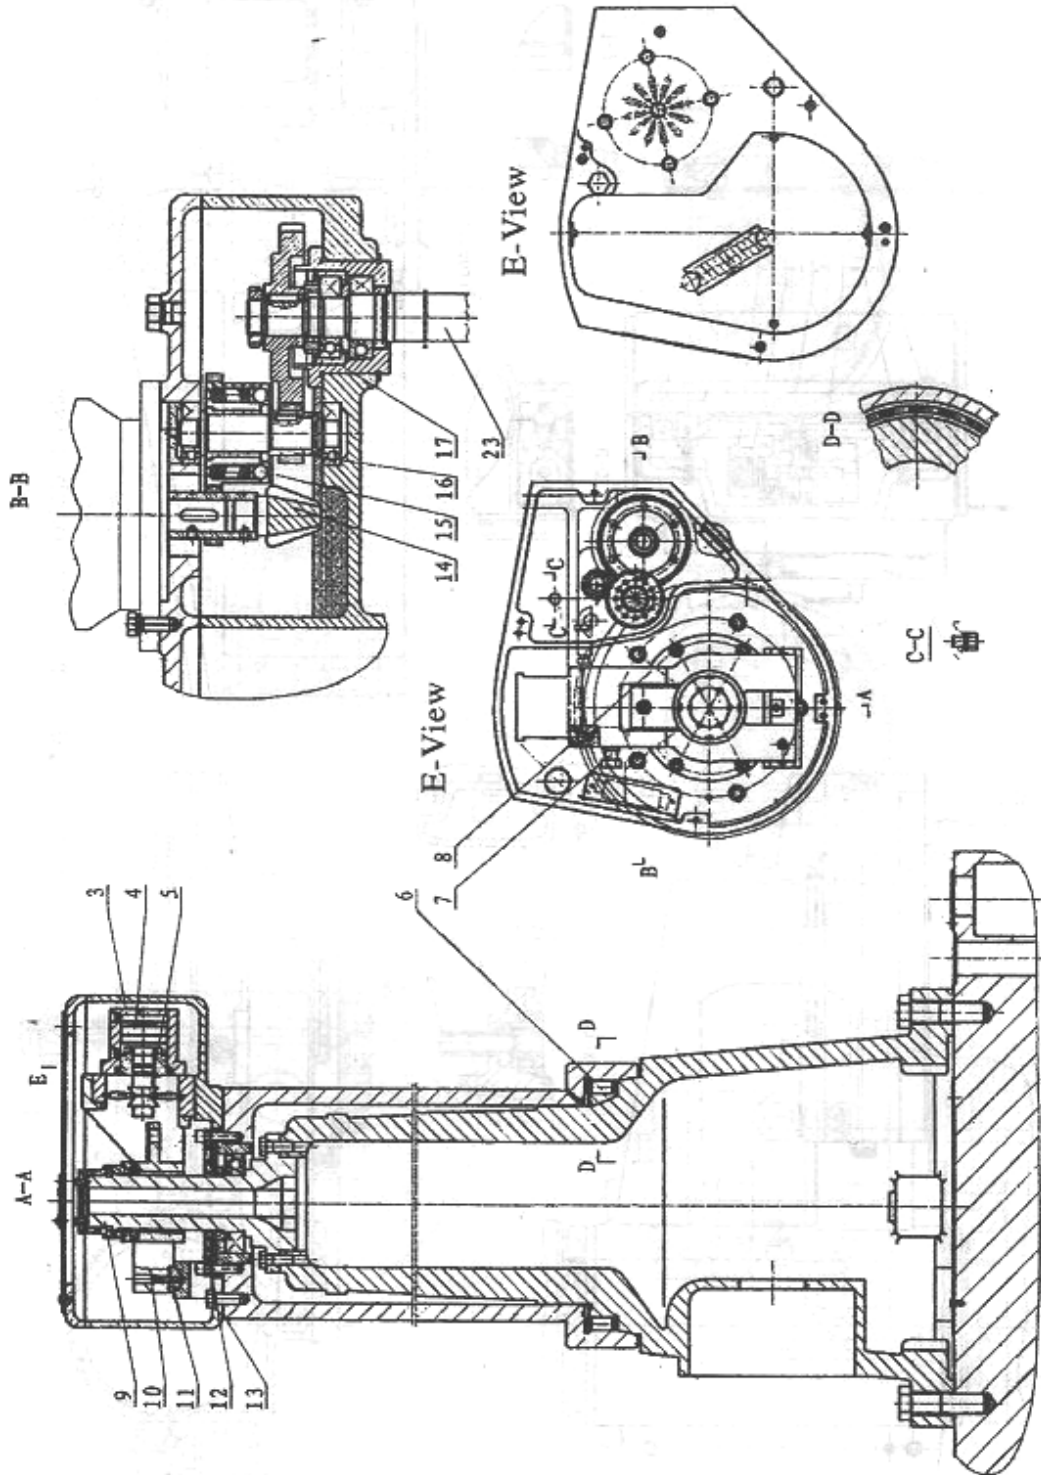
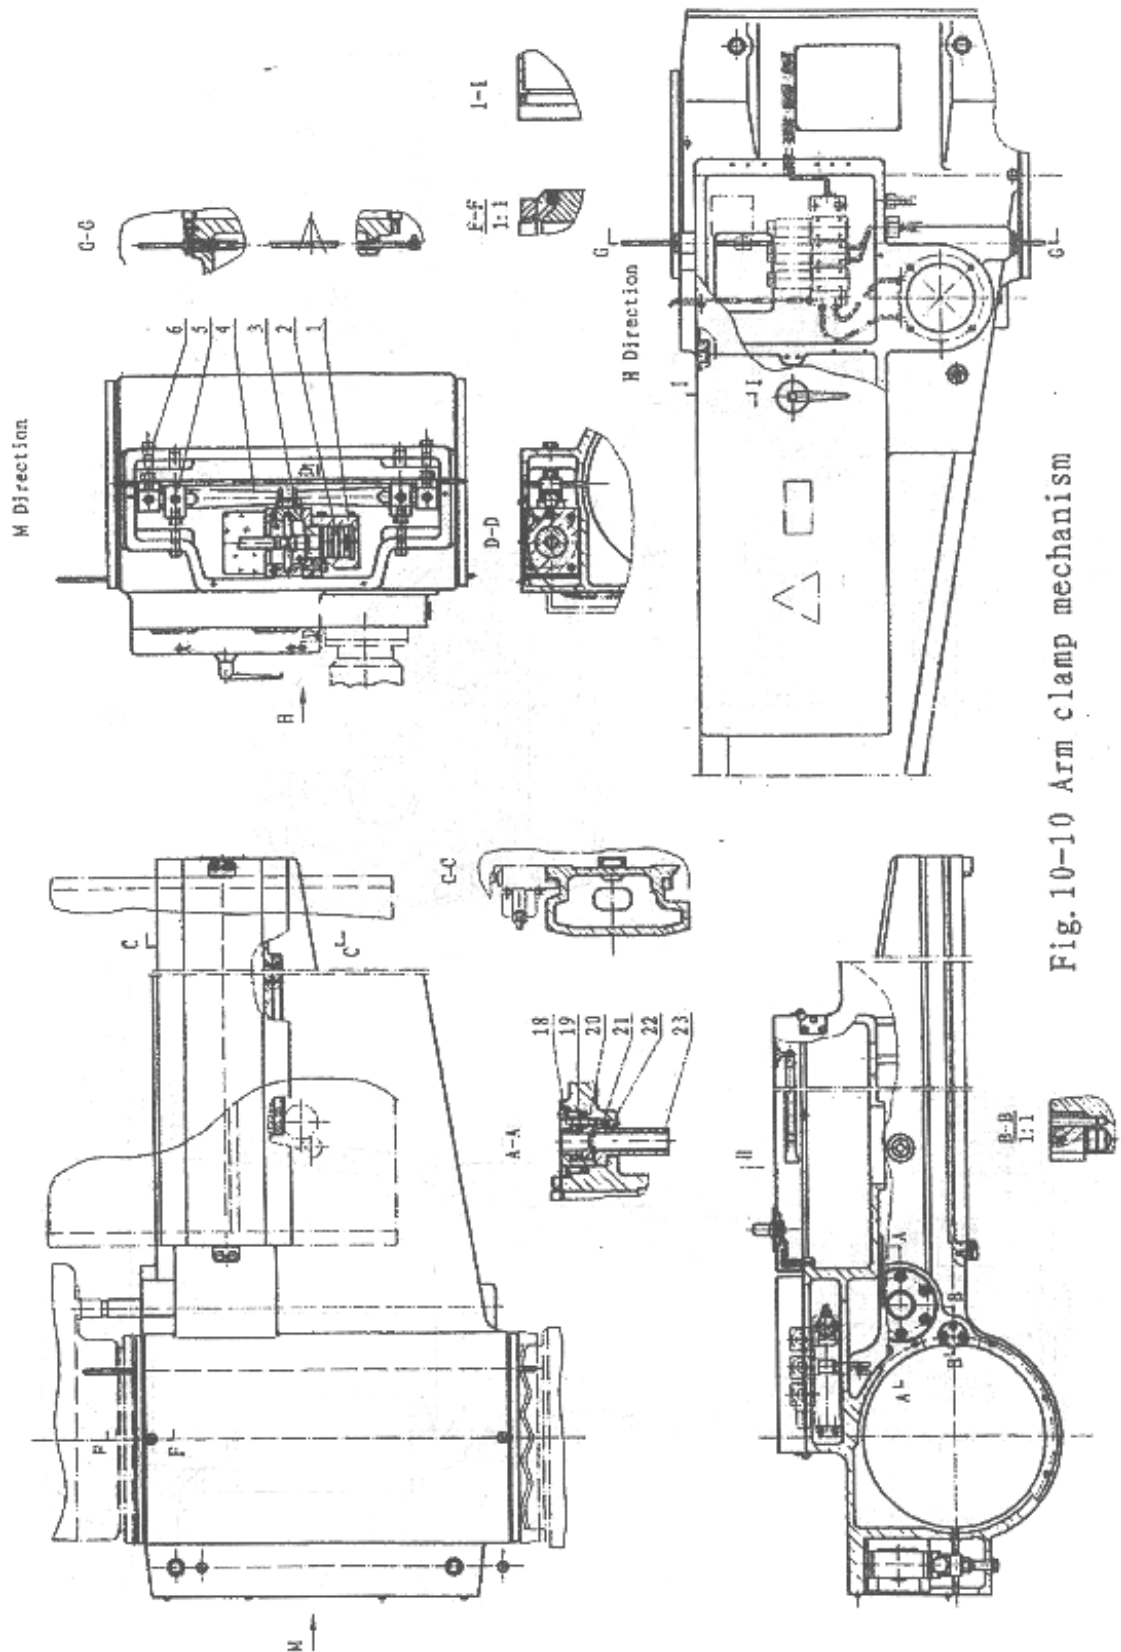

Fig.10-9 Column clamp and arm elevation
Fig. 10-10 Arm clamp mechanism
Inside of elevating shell 13, equipped with a arm elevating framework (fig.10-9 B-B section shows), elevating motor driven elevating link 23 via lower speed motor and steel ball insurance clutch 15, due to (fig.10-10 A-Asection shows) elevating nuts 21wad limited by pin 22, can not rotation , sp link 23 reverse can drive arm up and down ,to ensure the affluent lubrication of all transmission parts in elevating framework , there is a splash set equipped on motor shaft 14 ,for the consideration of elevating nut 21 abrasioin after long time working and probably out of it, there is a insurance nut 20. When elevating nut 21damaged, arm moving down to contact with pressure cover 18, pressure 18 supporting arm , in order to contingency happens 。 Nut 17 is used for link 23 limitation in shaft way ,when arm up and down to the travel end , not till steel ball insurance clutch 15
9、 Arm clamp (图 10-10)
(2) adjustment of clamping strength of column (fig.10-9)
(3) adjustment of clamping strength of arm (fig.10-10)